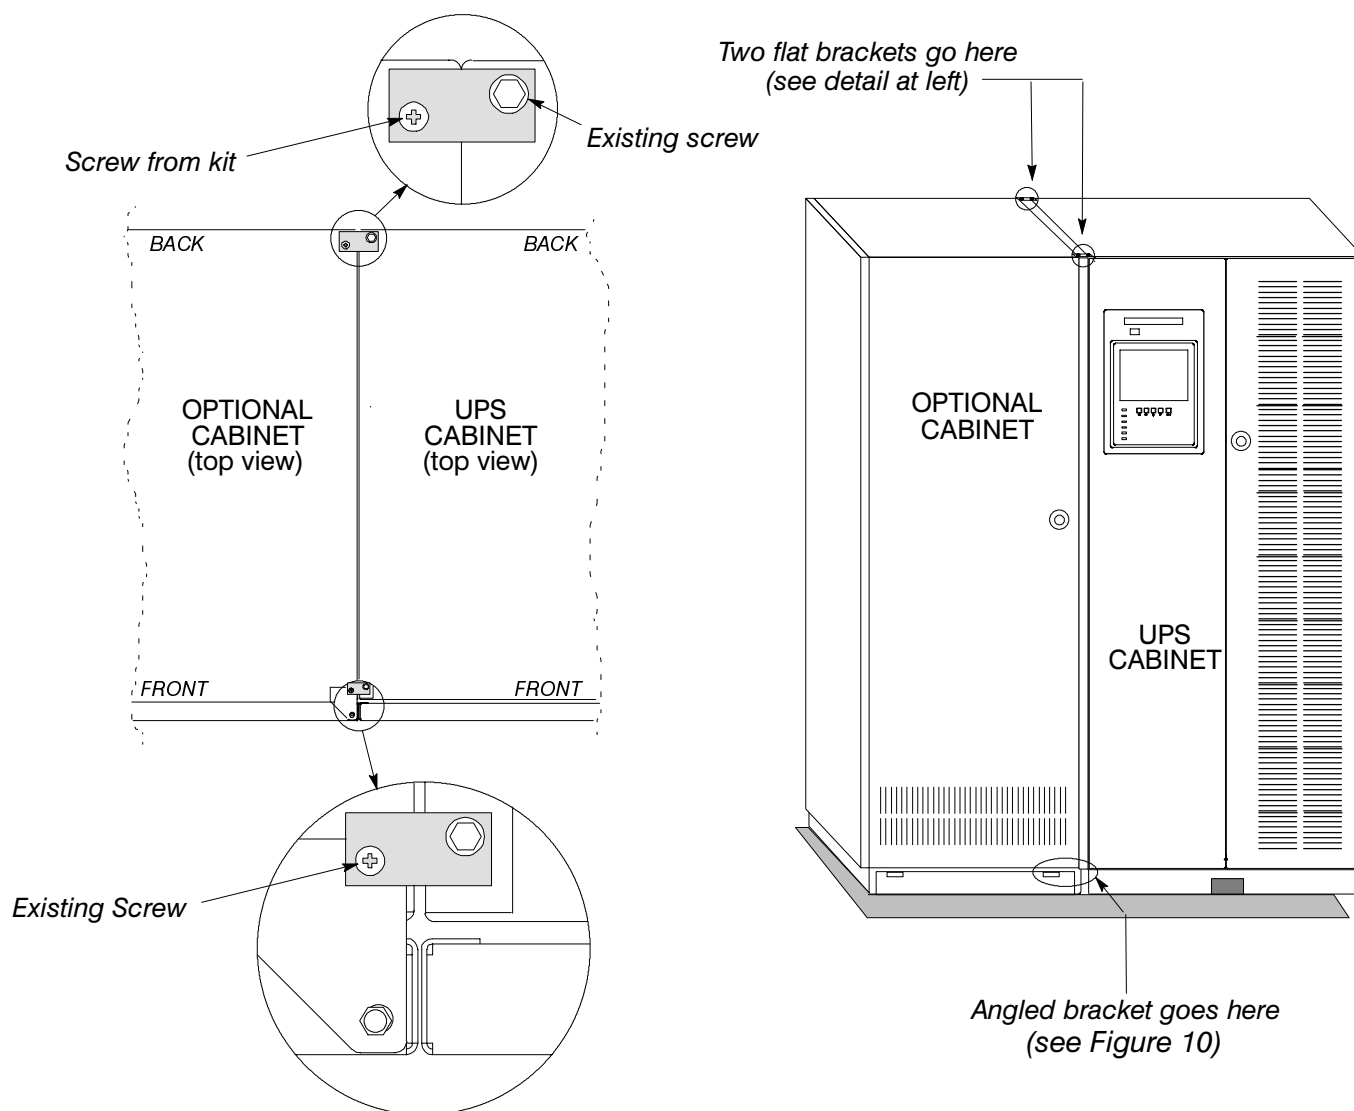
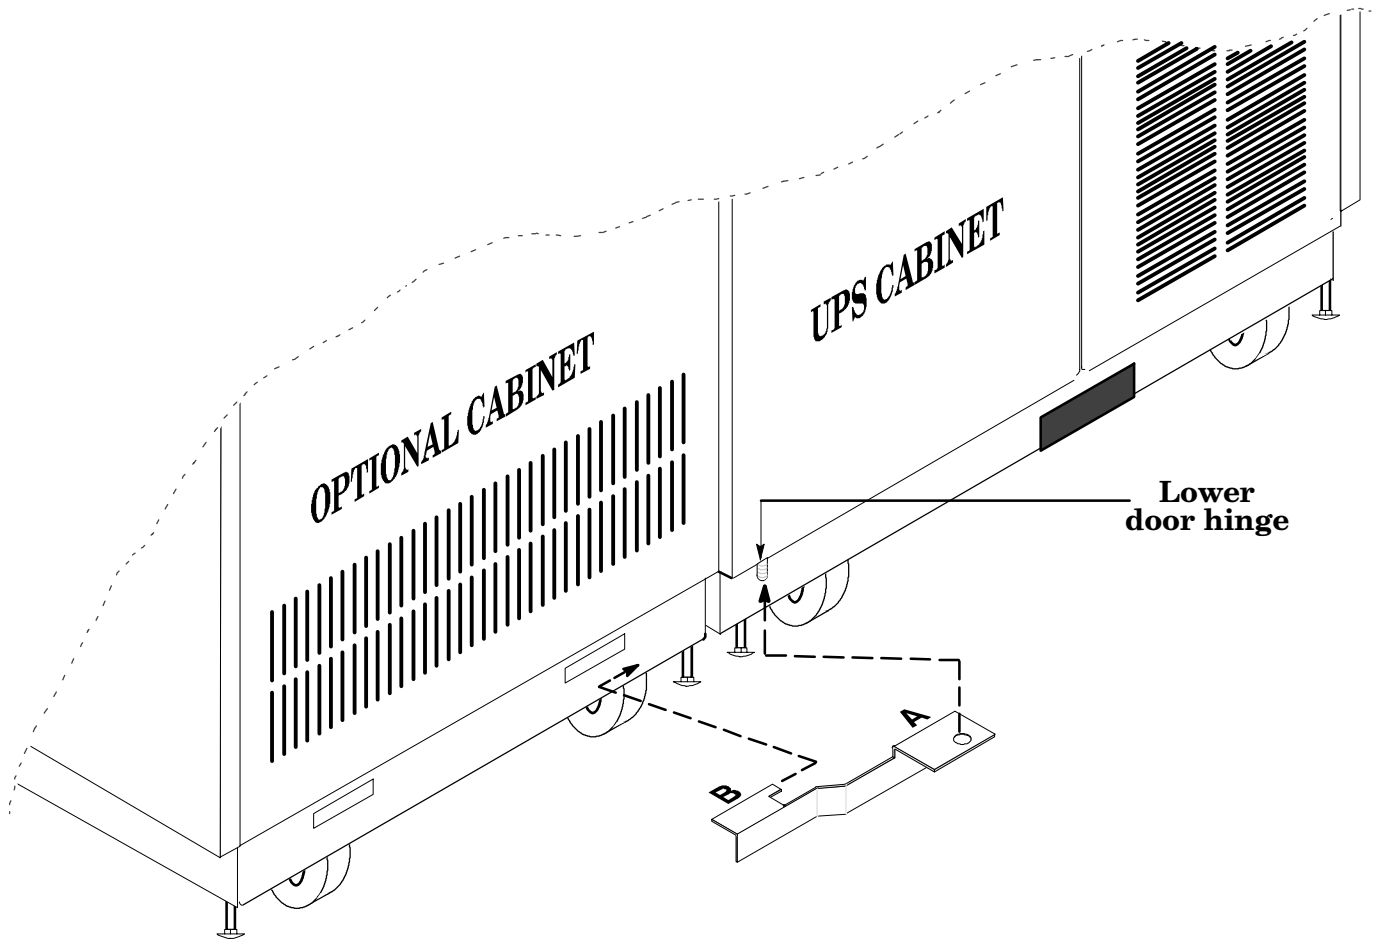

Figure 9. Placement of Joining Brackets
Figure 10. Installing the Angled Bracket
5. Three cabinet joining brackets are provided for securing each cabinet at the top and bottom. Two flat brackets join the tops of the cabinets, one at the front and one at the back. Either an angled bracket or a larger flat bracket connects the cabinets at the bottom. The bottom bracket type is dependent on cabinet configuration. See Figure 9 or Figure 10. Attach the flat brackets to the cabinet tops first.
6. Remove the screw from the top door hinge of the UPS cabinet. Remove the hex head screw from the front hole in the top frame angle on the optional cabinet. Align the small hole in one flat bracket over the screw hole in the cabinet hinge, and the large hole over the hole in the optional cabinet frame. Install the screws (see Figure 9).
9. Hold the angled bracket parallel to the floor (see Figure 10). The flange with the hole in it (labeled **A** in Figure 10) should be facing upward. The flange with the tab (labeled **B** in Figure 10) should be pointing toward the slot in the base of the optional cabinet.